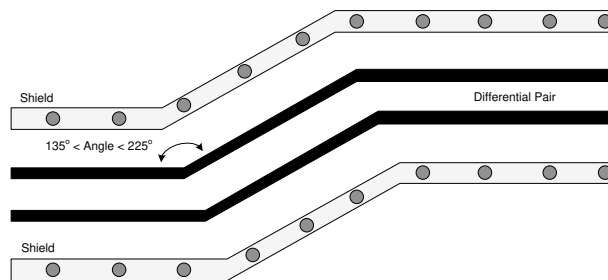

Figure 8-3. V-by-One Routing Example
- Ensure that the bend angles associated with the differential signal pairs are between 135° and 225° (see Figure 8-3).